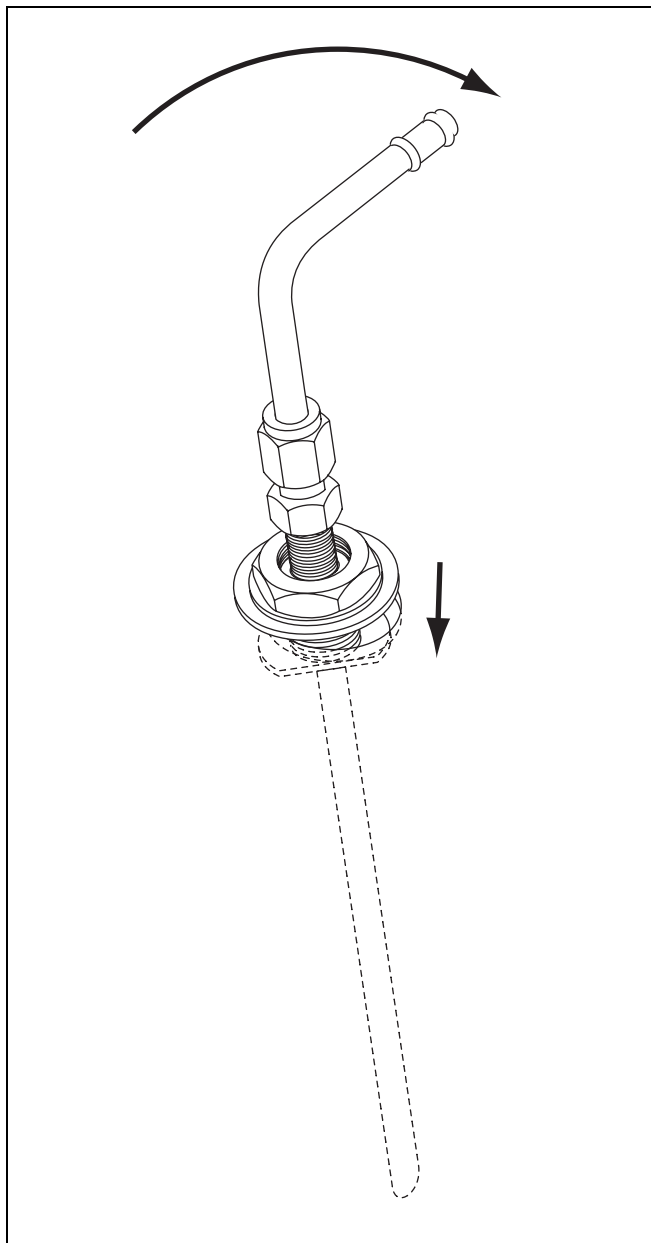

Figure 20: Standpipe installation - illustration 2
7. bring standpipe up to horizontal and insert opposite shoulder under the tank hole. See Figure 20.